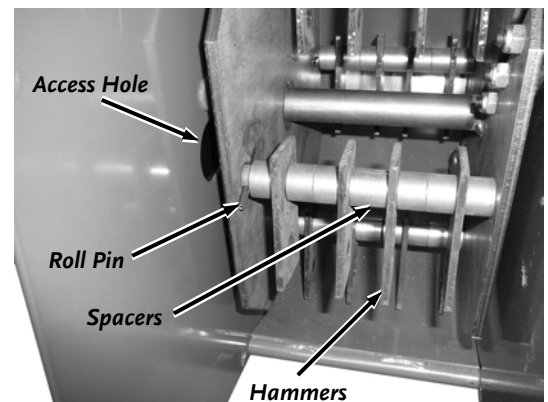

Figure 27
6. Rotate the Rotor Assembly to gain access to the Roll Pin at the end of the Rod (**Figure 27**).